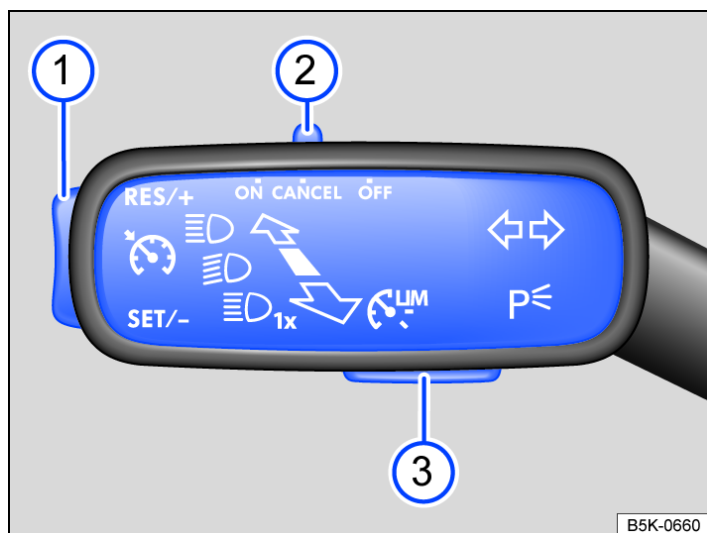

Fig. 1 On the left of the steering column: switch and buttons for operating the cruise control system.
— Move switch → Fig. 1 (2) to position **ON**.
— Press button → Fig. 1 (1) in the area **SET/-** while driving.